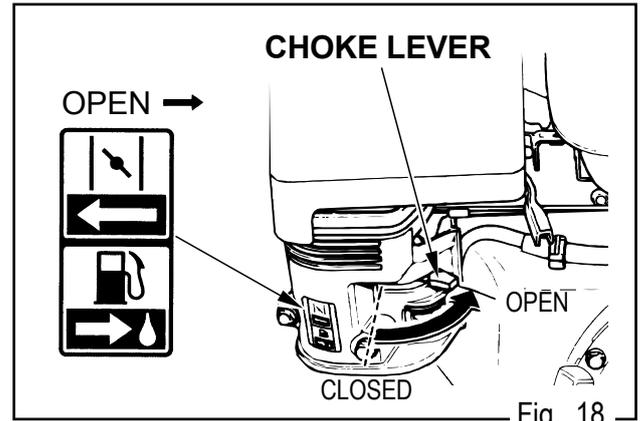

Fig. 18
- If the choke lever or choke rod (applicable types) has been moved to the CLOSED position to start the engine, gradually move it to the OPEN position as the engine warms up. (Fig.18)